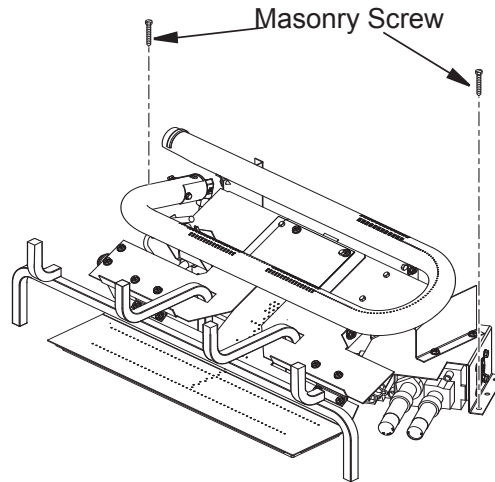

Figure 11 - Attaching Base to Fireplace Floor
3. Mark screw locations through holes in front panel of base (see **Figure 11**). If installing in a brick-bottom fireplace, mark screw locations in mortar joint of bricks.
6. Attach base, through holes in back side panels of base, to fireplace floor using masonry screws provided in hardware package (see **Figure 11**).